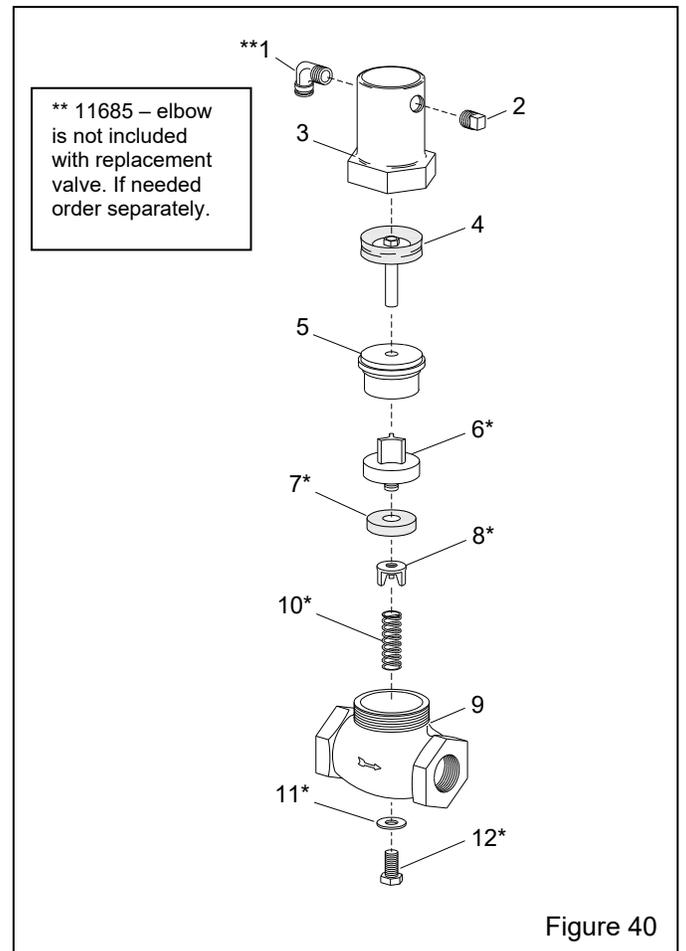

Figure 40
9.7 1" Piston Outlet Valve, Figure 40